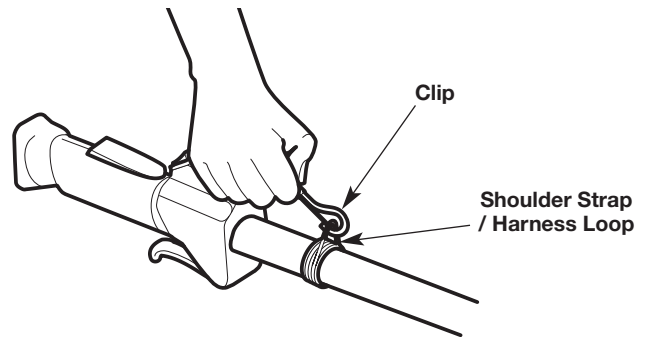

Fig. 14
5. Snap the clip onto the shoulder strap / harness loop (Fig. 14).